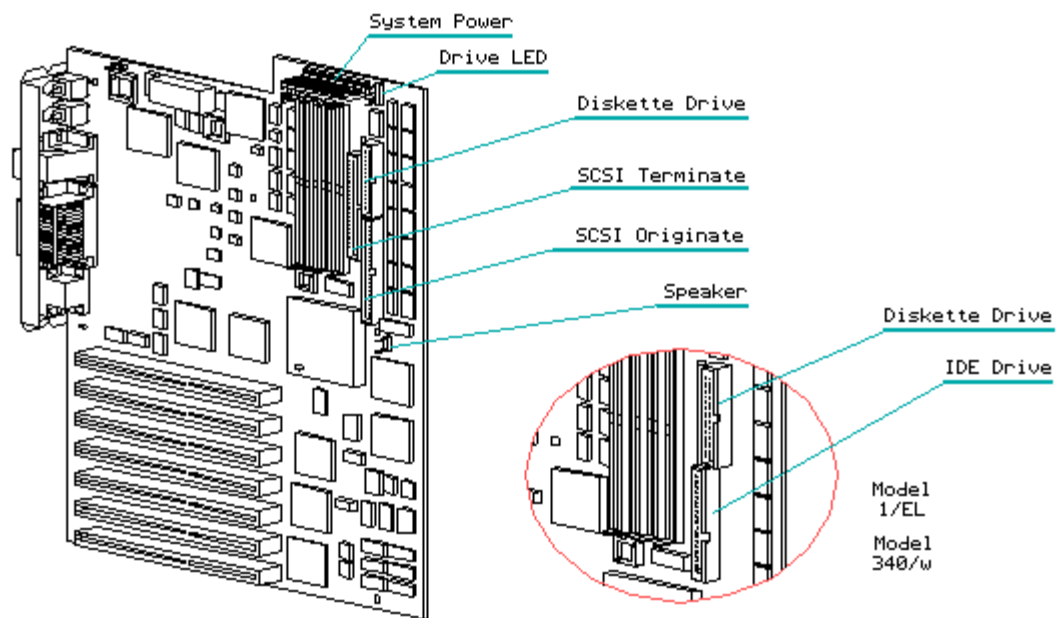

Figure 2-16. System Board Connectors
2. Disconnect all cables from system board (Refer to Figure 2-16).
3. Remove retaining screws (8).